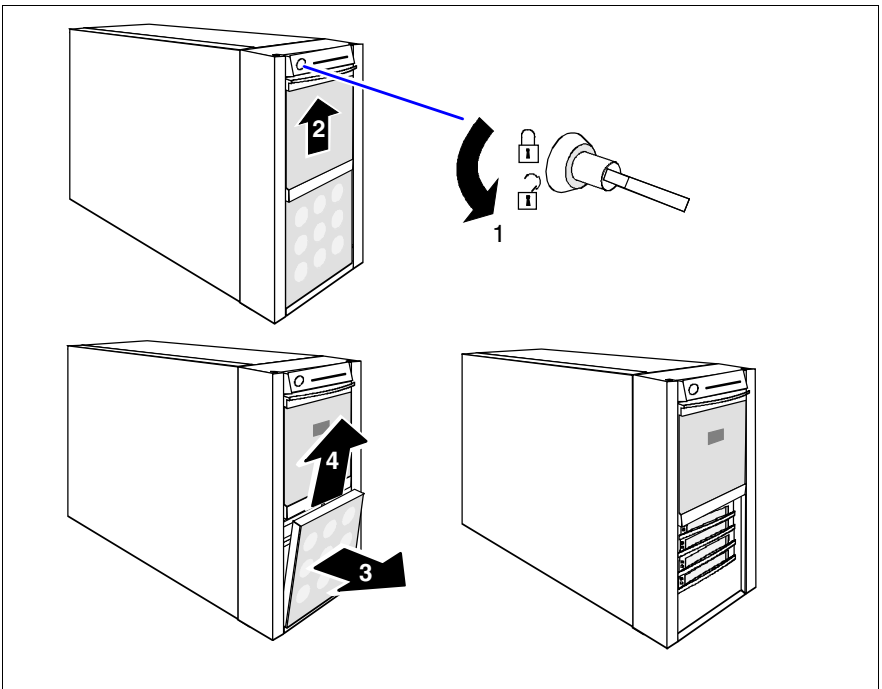

Figure 5: Removing the hard disk cover
- Remove the hard disk cover as shown in figure 5 on page 15.